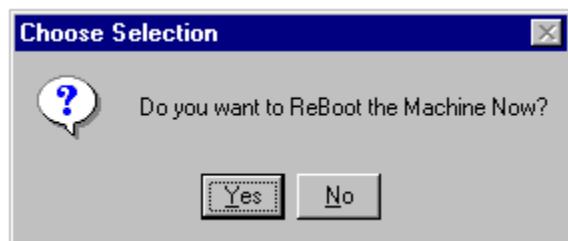

FIGURE 47. Reboot Machine Dialog
8.82 Touch the 'Yes' button on the 'Choose Selection' dialog. See Figure 47.